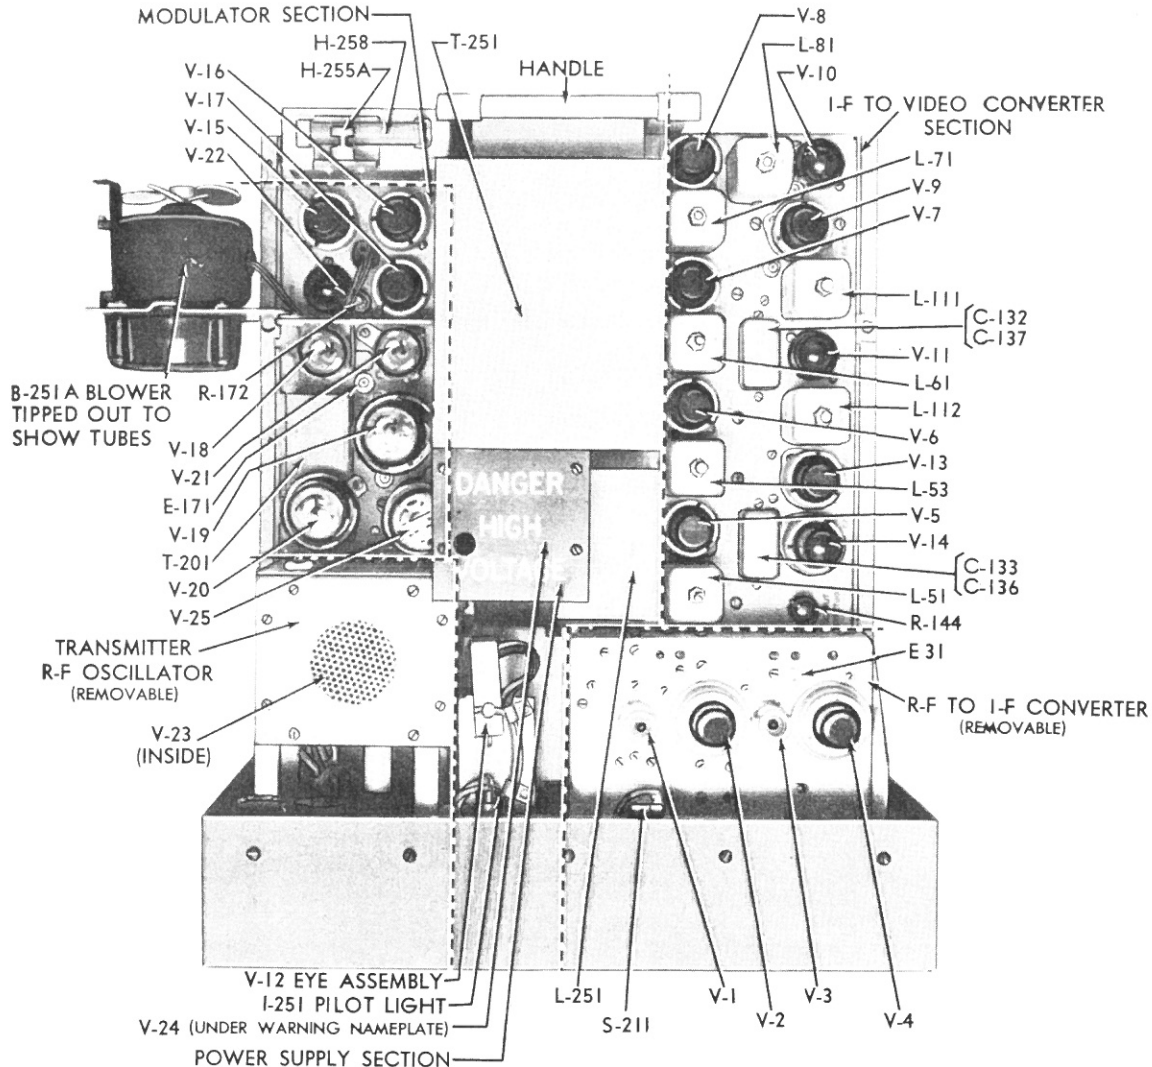
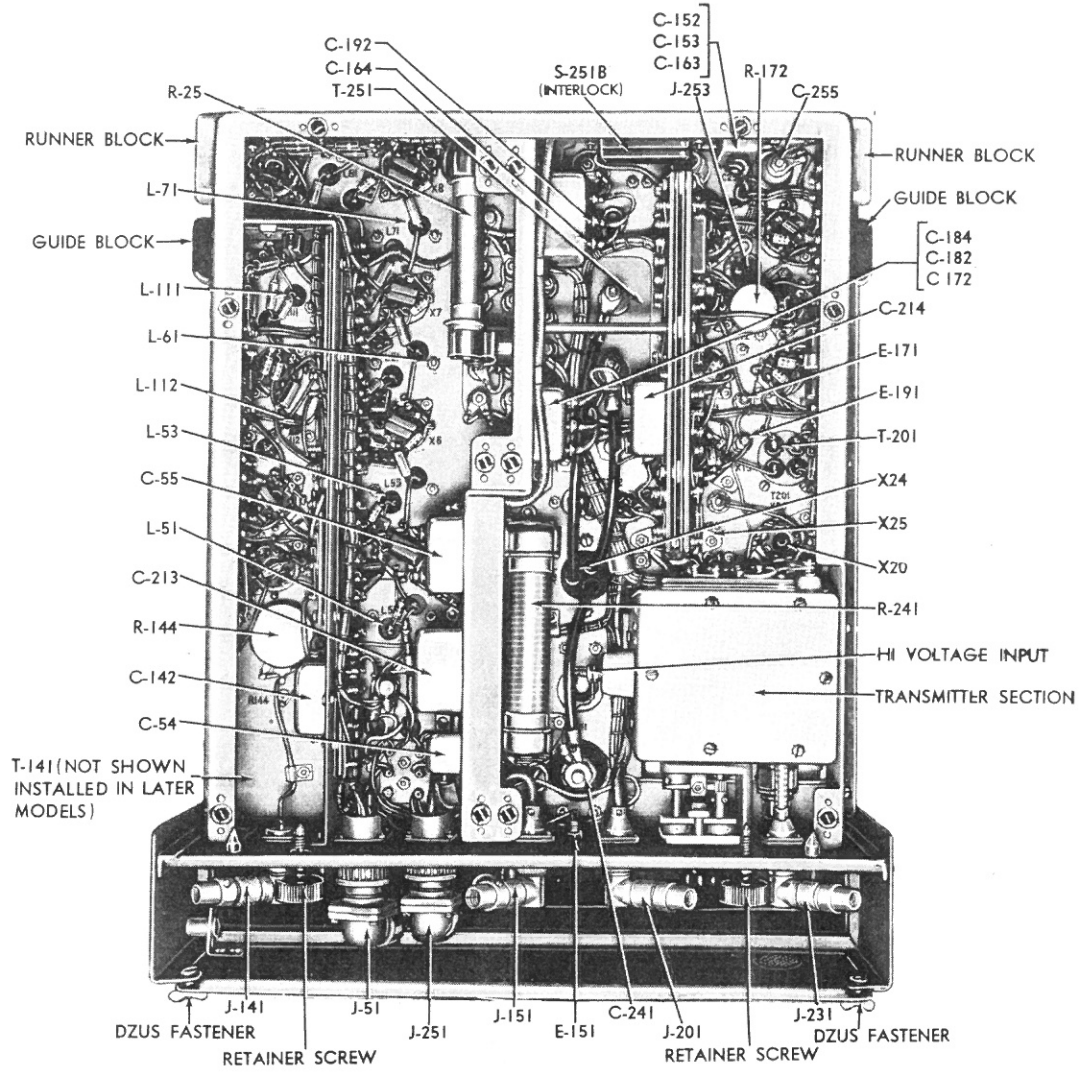

Figure 1-3—Model BN Equipment Removed from Cabinet Top View
Figure 1-4—Model BN Equipment Bottom View Cover Removed
*d.* MODULATOR AND I-F TO VIDEO CONVERTER, NAVY TYPE CFN-43ACB.—This is the foundation unit incorporating the Model BN Radio Equipment chassis and front panel, the modulator and receiver intermediate-frequency to video sections, receiver gating circuit, receiver tuning indicator, interlock, blower-motor, and all power supplies. Power input is 105 to 125 volts, 50 to 425-cycles a-c (at 115/1/60 approximately 225 watts). This unit furnishes power to Transmitter R-F Oscillator, Navy Type CFN-52ACQ, and R-F to I-F Converter, Navy Type CFN-46ACW, has video output for visual indicator. Input impedance is 75 ohms (Sync. In); output impedance is 50 ohms (Video Out). Weight uncrated is 86 pounds. For dimensions, refer to Figure 7-6, Pages 7-11, 7-12. This section is designated in the photograph in Figure 1-3, Page 1-4. A bottom view showing the parts and wiring is shown in Figure 1-4, Page 1-5.
*a.* The vacuum tubes used in the Model BN Equipment and their location are indicated in the photograph, Model BN Equipment top view, without cabinet, Figure 1-3, Page 1-4, which also shows the major sections of the equipment. The location of the related tube sockets are shown in the photograph of the Model BN, bottom view, Figure 1-4, Page 1-5.